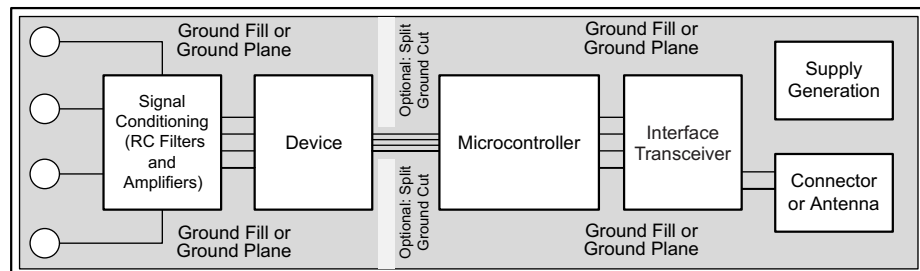

图 120. System Component Placement
Employing best design practices is recommended when laying out a printed-circuit board (PCB) for both analog and digital components. This recommendation generally means that the layout separates analog components [such as ADCs, amplifiers, references, digital-to-analog converters (DACs), and analog MUXs] from digital components [such as microcontrollers, complex programmable logic devices (CPLDs), field-programmable gate arrays (FPGAs), radio frequency (RF) transceivers, universal serial bus (USB) transceivers, and switching regulators]. An example of good component placement is shown in 图 120. Although 图 120 provides a good example of component placement, the best placement for each application is unique to the geometries, components, and PCB fabrication capabilities employed. That is, there is no single layout that is perfect for every design and careful consideration must always be used when designing with any analog component.